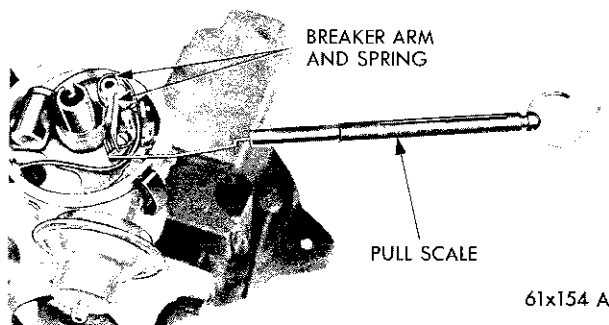

Fig. 9—Testing Breaker Arm Spring Tension
(1) Hook a spring scale Tool MTU-36 on the contact arm and pull in a straight line at right angles to the contact surfaces (Fig. 9). Take a reading as the contacts start to separate under the slow and steady pull of the scale. The spring tension should be 17 to 20 ounces. If the reading is outside these limits, loosen the screw which holds the end of the movable arm contact spring and slide the end of the spring in or out, as necessary to adjust tension.
(2) Tighten the screw and measure the spring tension.